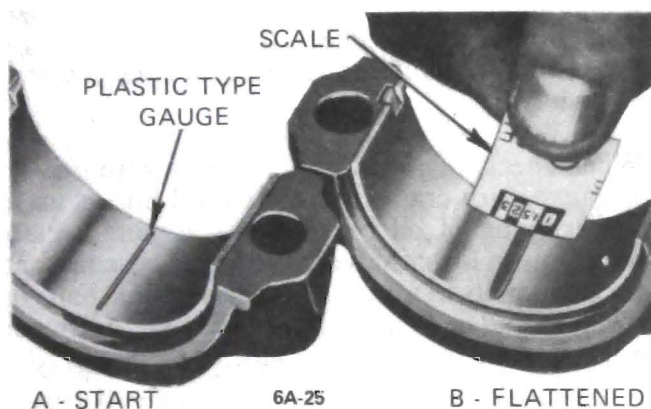

Figure 6A-25 - Checking Bearing Clearance With Plastic-Type Gauge
2. Place a piece of plastic-type gauge lengthwise along the bottom center of the lower bearing shell (Figure 6A-25, View A), then install cap with shell and torque bolt nuts to 35 lb. ft, or when capscrew fasteners are used 40 lb.ft. (350 Cu.In.) and 45 lb. ft. (455 Cu. In.)